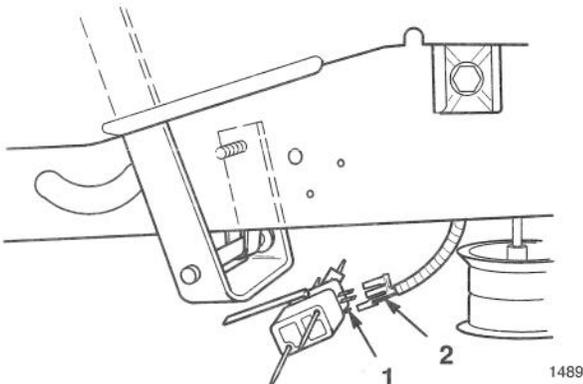

Figure 7
4. Connect switch to wire harness connector (Fig. 7).